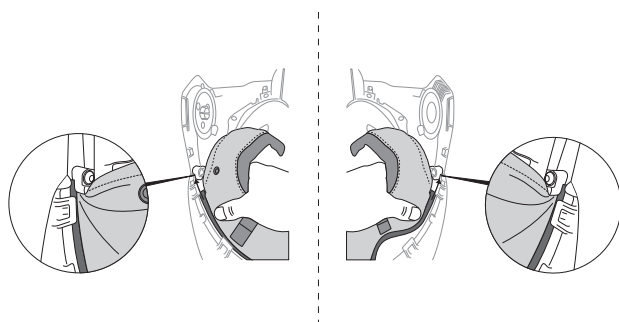

Fig. 20c
- c. To replace the faceseal, with the underside of the welding helmet facing up and the airduct tube pointed away, position the faceseal with front grasping tabs up. Fit the outer edges of the front plastic retainer into the appropriate grooves on each side and fit the center into the groove in the front of the welding helmet. Make sure it is tightly fitted in the center grooves (Fig. 20c).